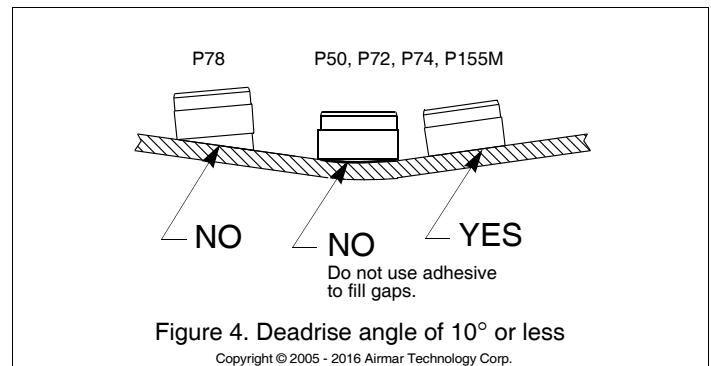

Figure 4. Deadrise angle of 10° or less
4. Press the transducer face onto the hull with a twisting motion to **expel all air bubbles**. Do not use adhesive to fill gaps (Figure 4, 5, or 6). (If the hull is slanted, temporarily secure the transducer in place with duct tape.) The adhesive supplied by Airmar is cured in 24 hours at 21°C (70°F). The lower the temperature the longer the cure time.